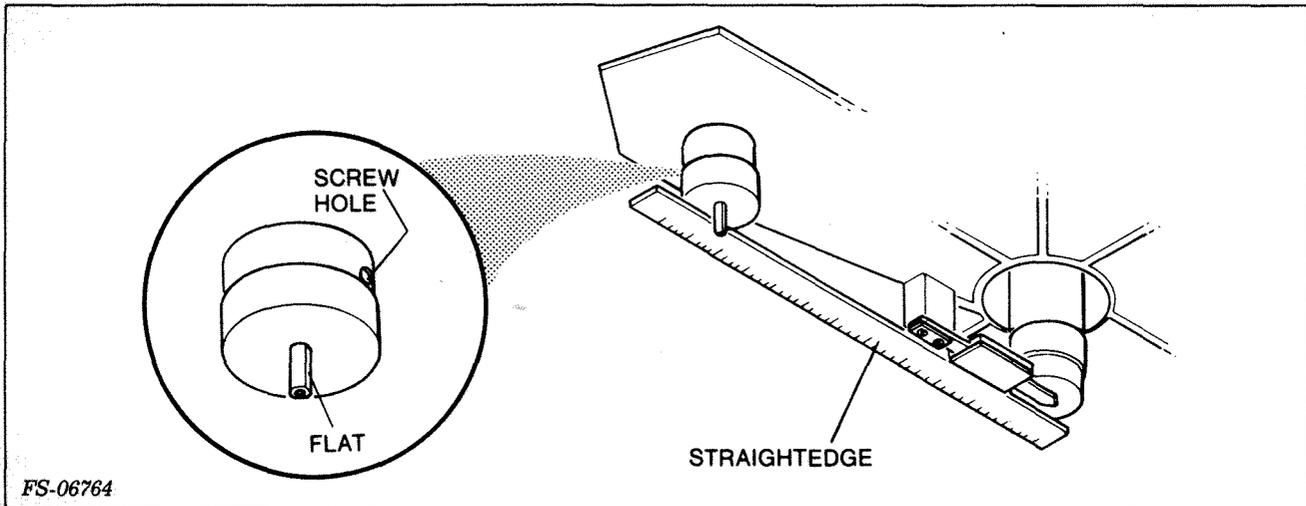

Figure 5-10. Spindle Motor Pulley Adjustment
14. Set a straightedge along the bottom of the sealed data module spindle pulley and adjust the spindle motor pulley to the same height as the spindle pulley (see Figure 5-10). The straightedge must make contact with at least one point on the motor pulley.